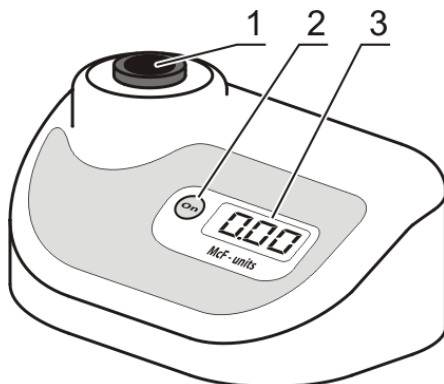

Figure 2. Front view
- Check if the A-16 adapter is in the socket (fig. 2/1). The device is calibrated for operation with the glass tubes 16 mm in external diameter. To use different tubes, recalibrate the unit, see the **Calibration** section of the manual.
Note. The display of **DEN-1B** switches off if the socket is empty for longer than one minute. Press the **On** key (fig. 2/2) to activate the unit.
5.3. The following indication may be shown on the display (fig. 2/3):
5.7. Insert the tube into the socket of densitometer (fig. 2/1). The McFarland value for the solution will be shown on the display (fig. 2/3).
6.6.2. **Transparent standard.** Display shows $\square.\square\square$ indication. Insert standard for **0.00** value into the socket (fig. 2/1) of the unit. If the standard for 0.00 value is not available, fill the tube (of the kind that is used for operations) with distilled water. Use the tube as the **0.00** value standard. Press **Install** button to save transparent standard value. Display shows next required calibration value.
6.7. **Common calibration rules.** Display shows indication of necessary calibration value. Insert the necessary standard into the socket (fig. 2/1) of the unit and press the **Install** button to save the value for current standard.